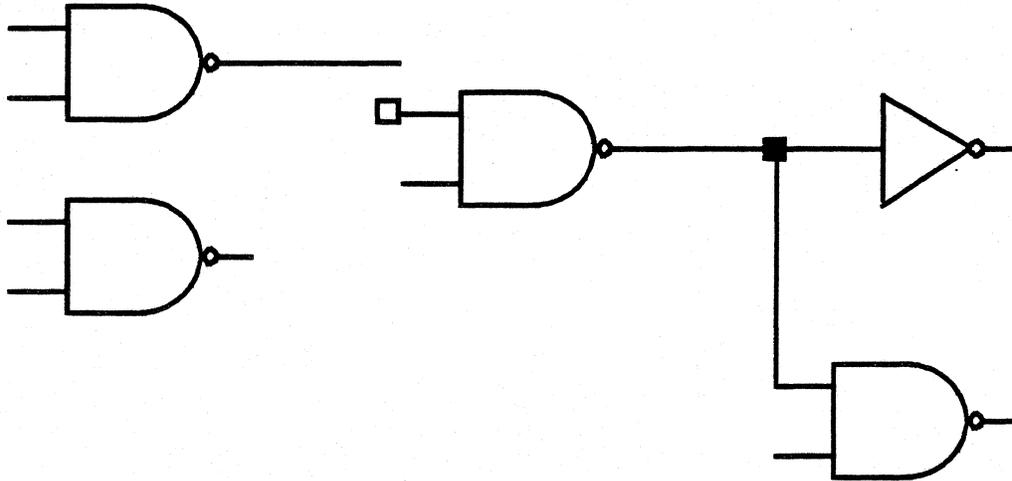
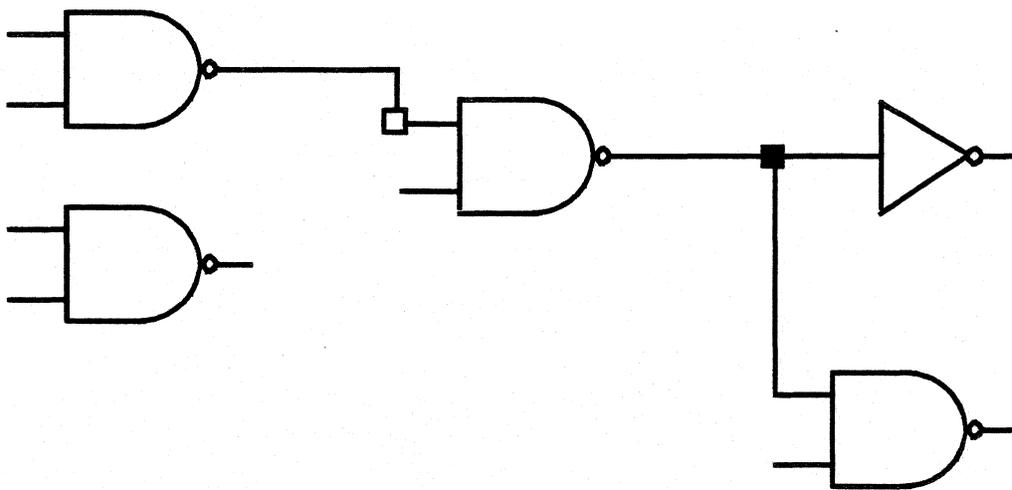

Figure 2.17
Figure 2.18
- 3) Move the cursor along the path of the net. The system draws the net path. The small box moves to the closest symbol connection point or net point at which to end the net (figure 2.17). When you want to make a 90° bend in the net press the left mouse button (figure 2.18). If you want to erase the previous bend, press the right mouse button, or activate the Create Connection Path Menu and select **Forget Last Bend**.